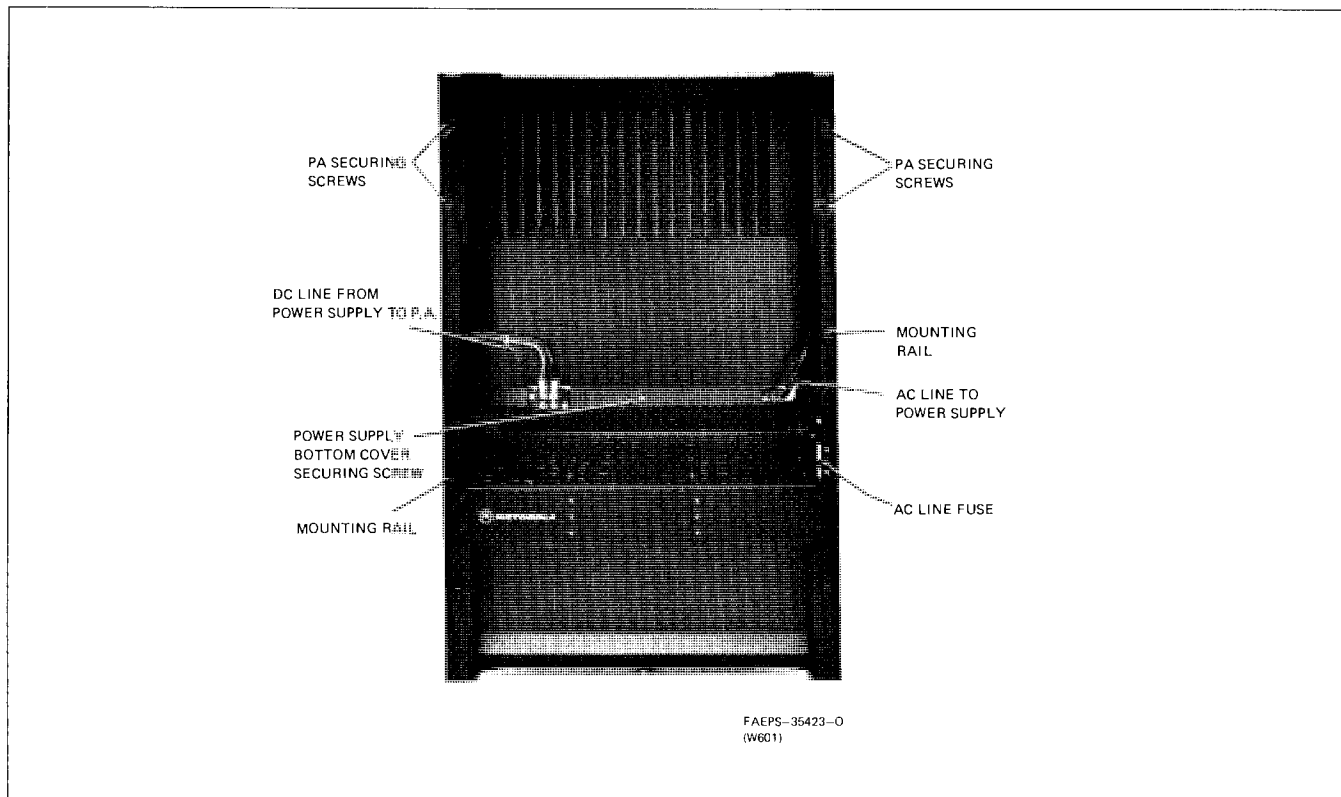

Figure 3. PA and Power Supply Detail of Continuous Duty Station
**5.2.2.1** To gain access to the power amplifier boards for servicing and metering, remove the 4 black power amplifier securing screws. Swing the PA chassis assembly out and down (it is hinged at the bottom). Metering is accessible without removing any covers. Remove 12 screws holding the cover over the PA and power control board for servicing the PA (refer to Figures 3 and 4).